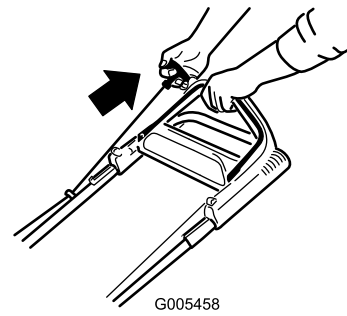
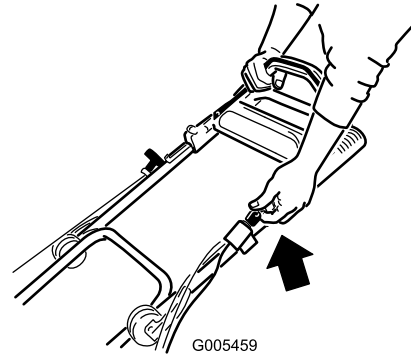

Figure 14
Figure 15
3. Pull the recoil starter (Figure 14) or turn the ignition key as shown in Figure 15 (model 20638 only).